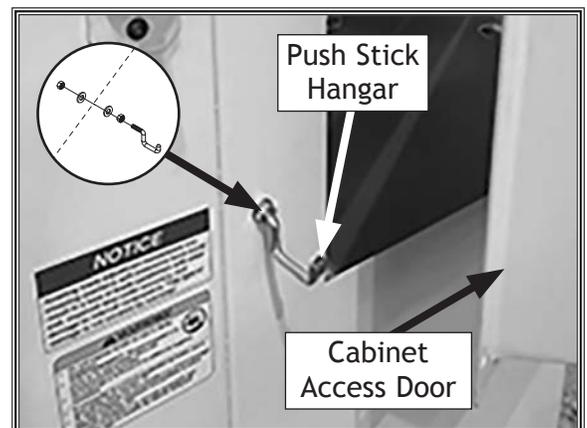

Figure 35. Push stick hangar installed.
34. Locate hole in cabinet near bottom left corner of cabinet access door, then open door (see **Figure 35**).
35. Thread (1) 1/4"-20 hex nut with (2) 5mm flat washers onto push stick hangar, secure with (1) 1/4"-20 hex nut (see **Figure 35**), then close door.